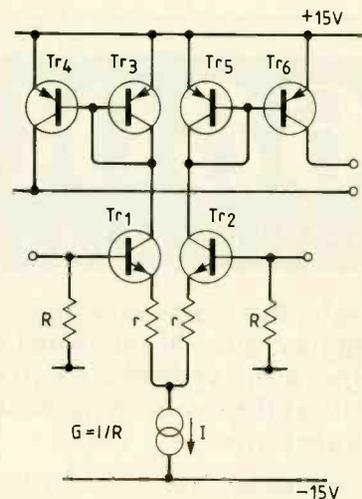

Fig.2. Circuit of input and intermediate stages. Current mirrors allow large common-mode signals.
**Input and intermediate stages.** The circuit employed for the input and intermediate stages is shown in essence is Fig.2. In a balanced quiescent state, the achievement of which is assisted by resistors r, each of the six transistors will have an intrinsic transconductance  $g_m = 20I$ . The effective transconductance of  $Tr_1$  and  $Tr_2$  will be modified by the presence of resistance r to  $g_m' = g_m / (1 + g_m r)$ , so that the greatest voltage gain from an input base to the corresponding collector is  $-1 / (1 + g_m r)$ , whose magnitude is less than unity. Thus the Miller effect at the bases of  $Tr_1$  and  $Tr_2$  is reduced.